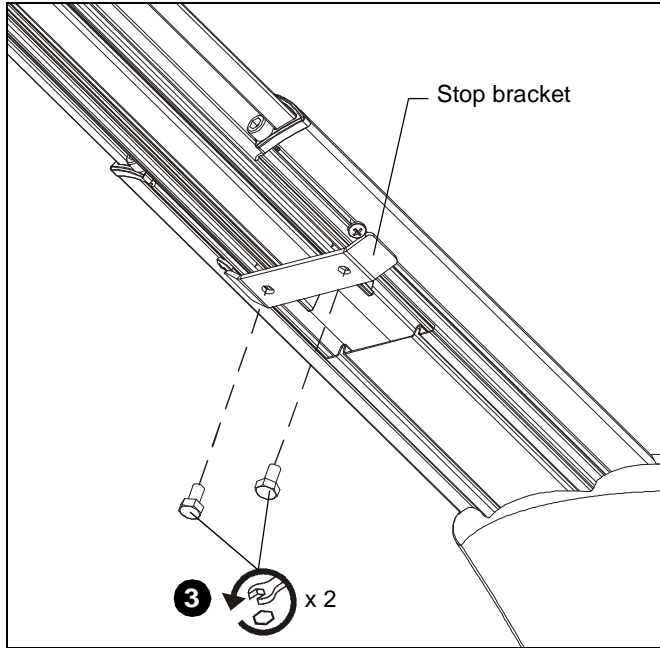

Figure 27
3. Remove two bolts holding stop bracket in place on underside of short throw projector mount. (See Figure 27)